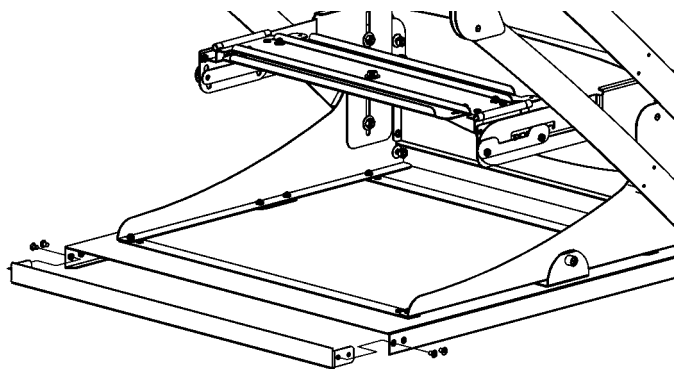

Figure 4. Remove Ceiling Retainer
7. With lift at least partway open, remove four screws securing ceiling tile retainer on bottom of tray (see Figure 4) and remove ceiling tile retainer.